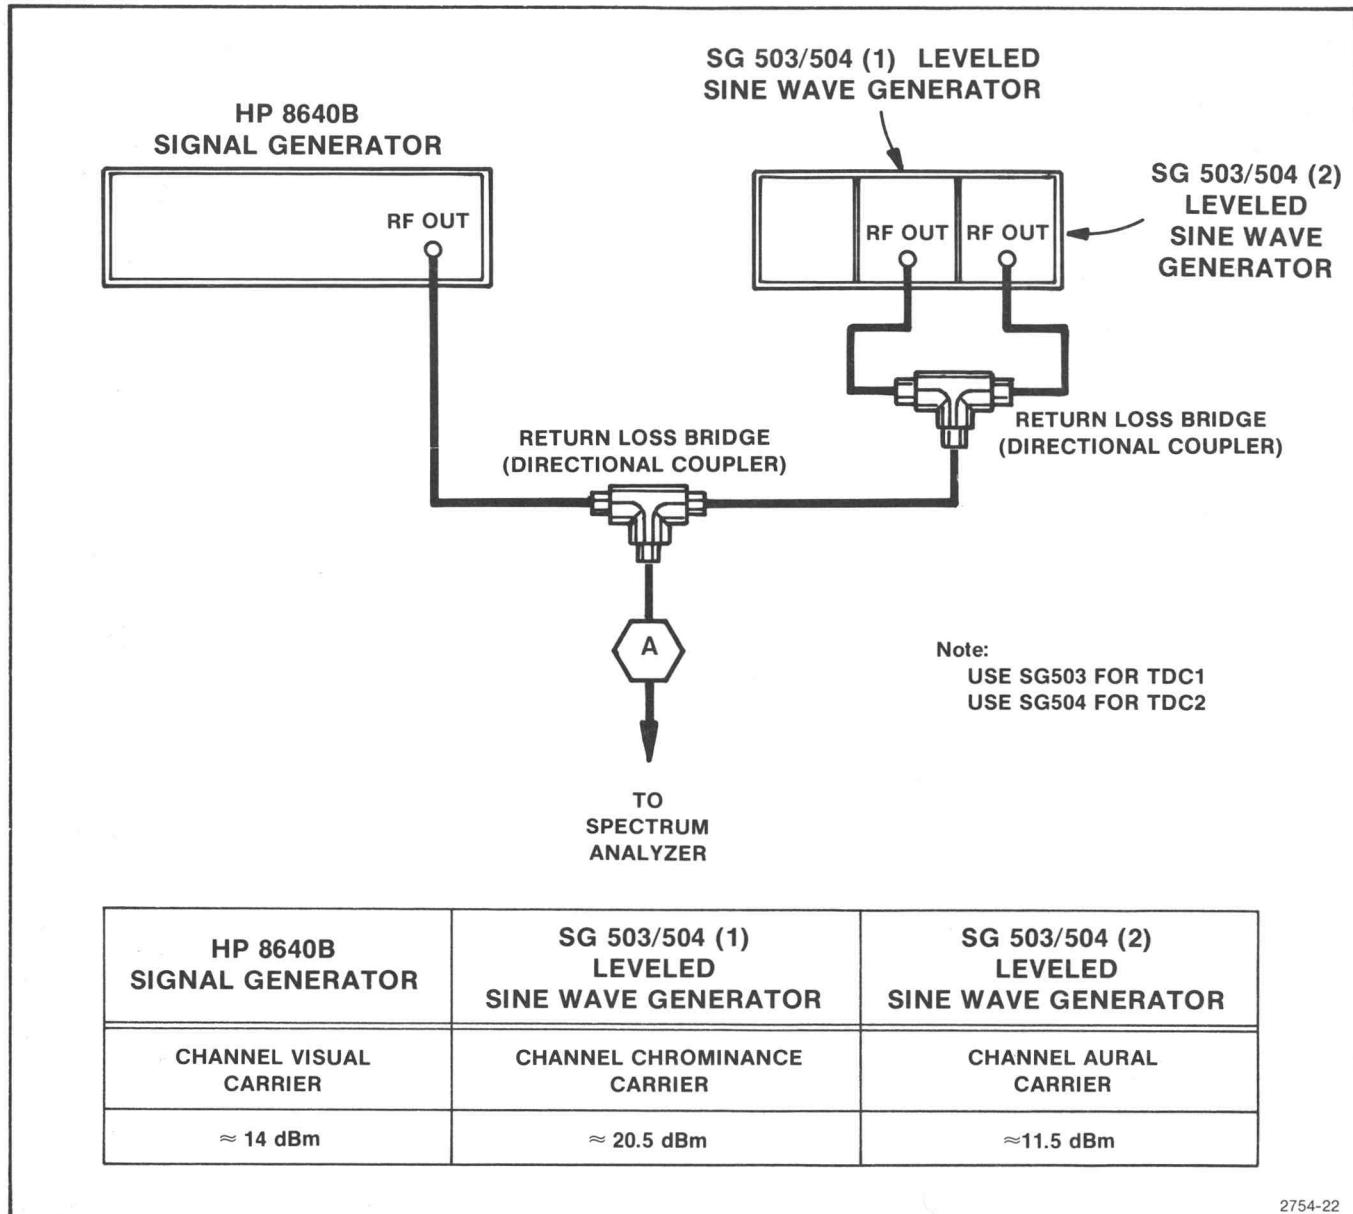

Fig. 4-11. Test Setup for Measuring Chrominance Carrier/Aural Carrier/Visual Carrier Intermodulation (3 Tone Test).
- g. Reset the Generator (1) and Generator (2) frequencies to the 2nd adjacent channel frequencies, and perform parts a through e.
- a. Connect the test equipment as shown in Fig. 4-11. Use a spectrum analyzer such as a 7L13 to set the power levels at point 'A' in Fig. 4-11 according to the following table:
b. Now connect point 'A' in Fig. 4-11 to the SYSTEM RF Input. Push in the 1450-1 Cont (Synchronous Detection Mode), Sound Trap Out, and Sync Tip buttons. The 1450-1 Unlocked light should be "off". If the Unlocked light is "on", disconnect the aural carrier from the test setup momentarily. The 1450-1 Unlocked light should remain "off" throughout this step. Note the 1450-1 readout indication.